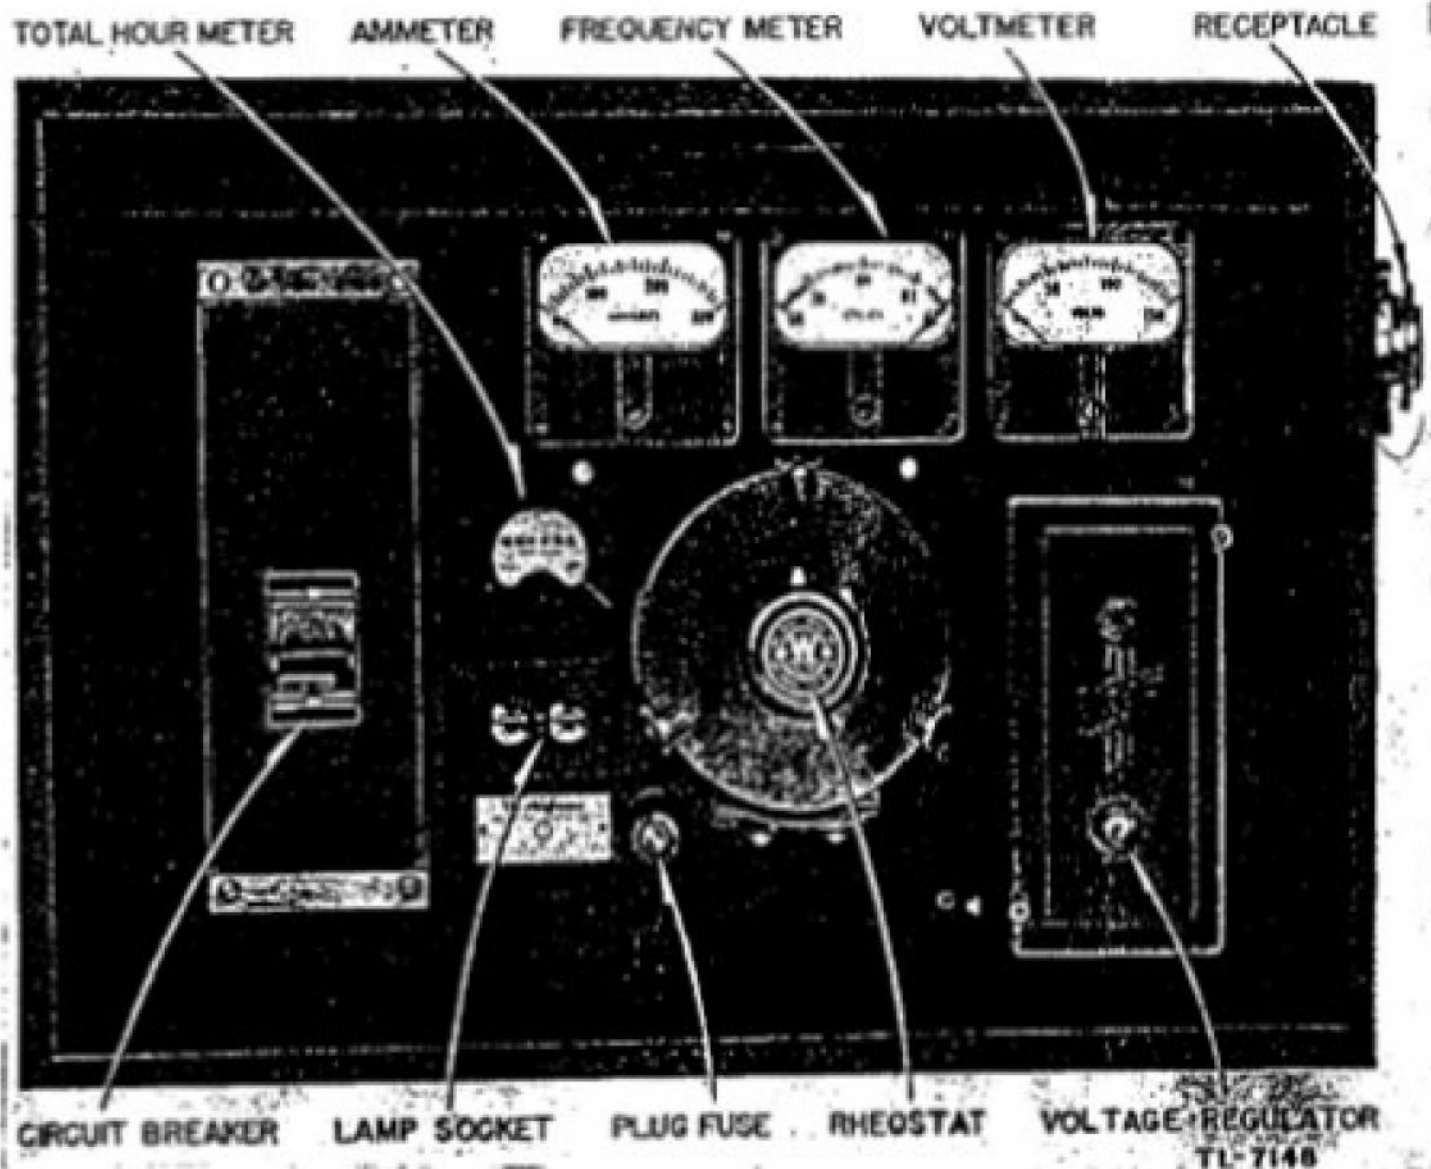

Figure 3. Power Unit PE-84(*), electrical control panel.
c. CONTROL PANEL (fig. 3). The following equipment is mounted on the control panel: a 225-ampere, two-pole circuit breaker, which serves as a circuit breaker and a disconnecting switch; a voltmeter, for indicating the voltage across the single-phase line; an ammeter, for indicating the total current supplied